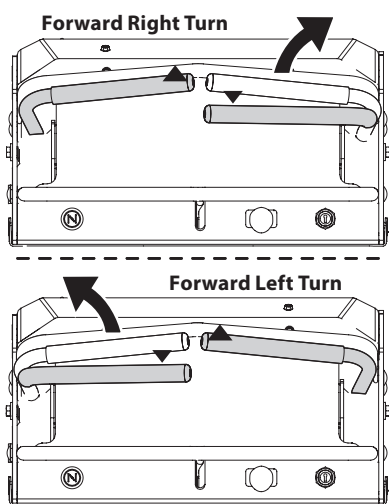

Fig. 11
1. To turn to the right, move the right drive control lever rearward of the left drive control lever (Fig. 11).
2. To turn to the left, move the left drive control lever rearward of the right drive control lever (Fig. 11).